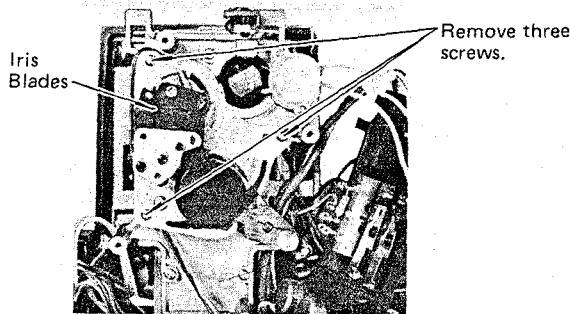

Fig. 8-5-5
- Remove the three screws on the auto iris mechanism assembly (Fig.8-5-5), and remove the assembly by pulling it forward.
- Install the new auto iris mechanism assembly in the reverse order. Be careful not to hold the iris blades. (Fig. 8-5-5)